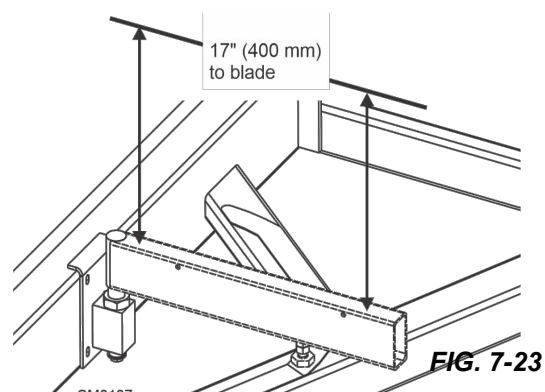

FIG. 7-23
4. Move the carriage forward to check the distance to the blade at the inside of the pivot rail support. See FIG. 7-23.